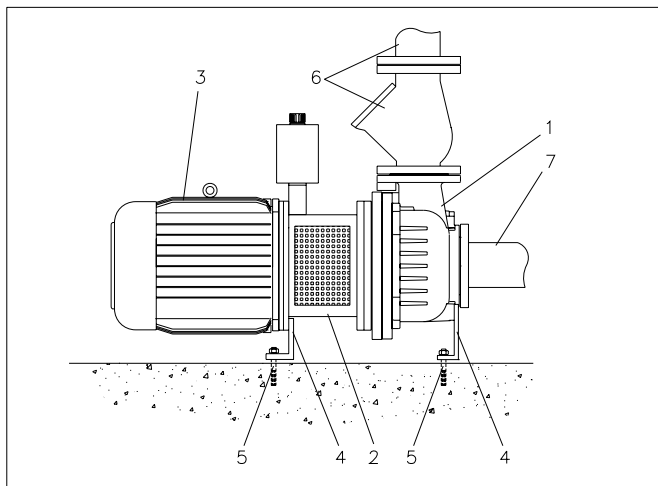

Fig. 7.5
See fig. 7.5 or 7.6.
- fixation of the baseplate to the floor, see fig. 7.5 and 7.6 pos. 5.